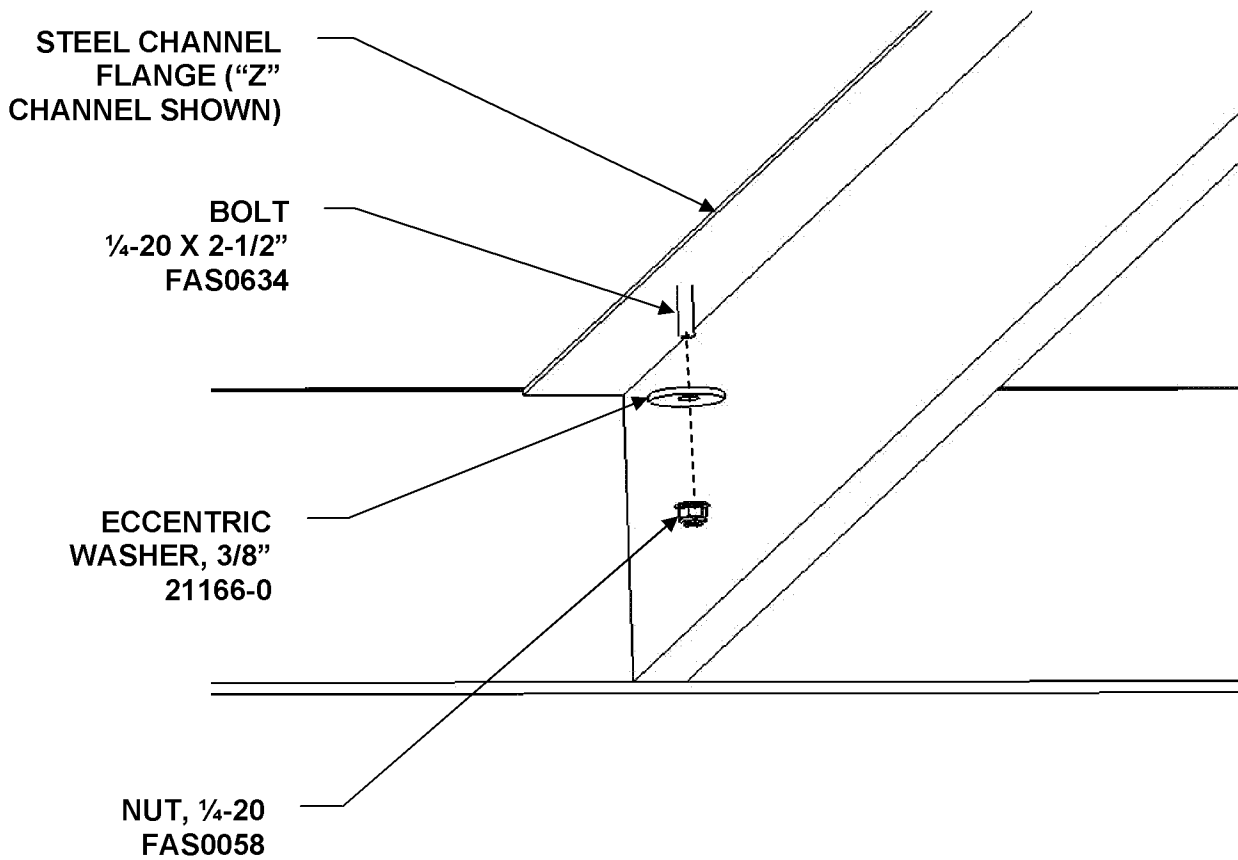

FIGURE 7. BOLT THROUGH STEEL CHANNEL FLANGE.
- 7) ATTACH FASTENERS AS SHOWN IN FIGURE 7 AND SECURE PER FASTENER STANDARDS AS OUTLINED ON PAGES 2 & 3 OF THESE INSTRUCTIONS.